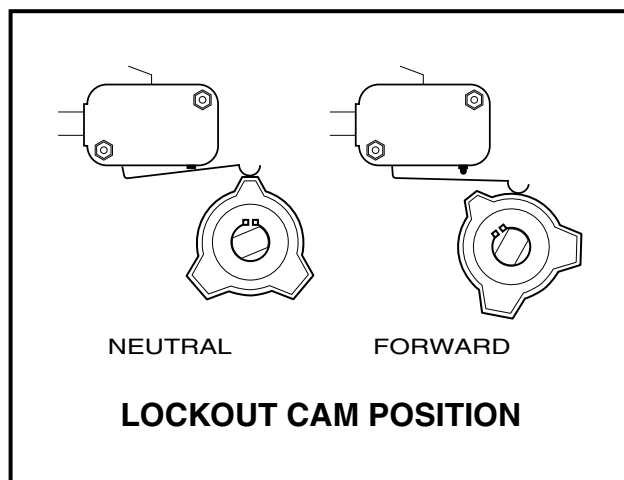

Figure 11-10 Correct Position for Lockout Cam
**NOTE:** Be sure the cam is in the correct position. The cam should activate the limit switch only when the Forward/Reverse handle is in the NEUTRAL position (Figure 11-10, Page 11-13).